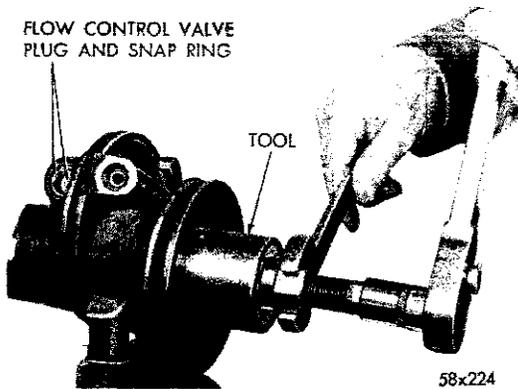

Fig. 52—Removing the Pump Pulley
(1) Clean the exterior of the pump before disassembly.
(2) Remove the filler cap and drain the reservoir.
(3) Remove the brackets, reservoir screws, gasket and "O" ring.
(4) Using spacer washers between the front bracket and the pump, reinstall the front bracket for use as a holding fixture. Clamp the bracket in a vise (Fig. 52).
(5) Remove the pulley with Tool C-3615 as follows:
(1) Remove the bracket and reservoir.
(2) Remove the pump pulley (Fig. 52).